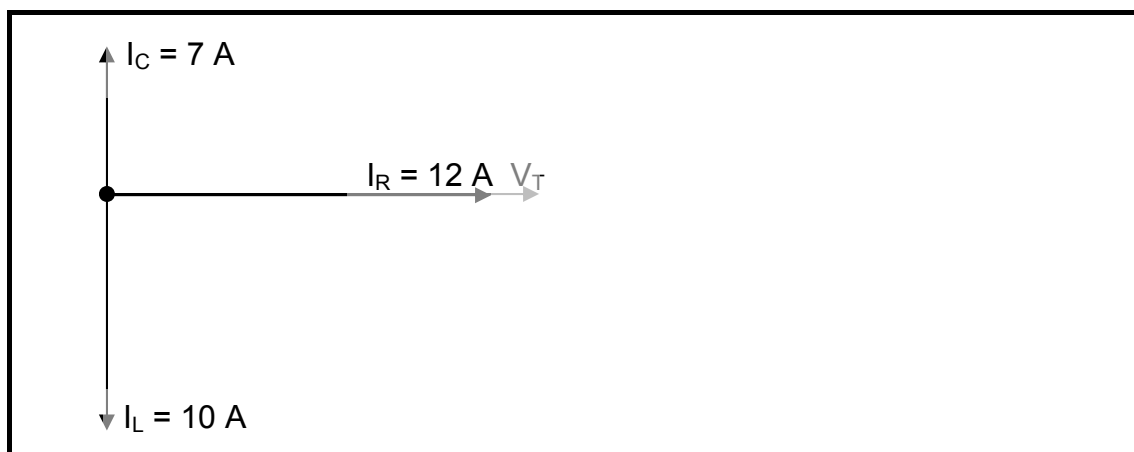

FIGURE 5.1 – PHASOR DIAGRAM OF AN RLC PARALLEL CIRCUIT
- 5.3 The phasor diagram in FIGURE 5.1 indicates the current values through the components of a parallel circuit consisting of a resistor, a capacitor and an inductor, all connected across a $220\text{V}/50\ \text{Hz}$ supply.